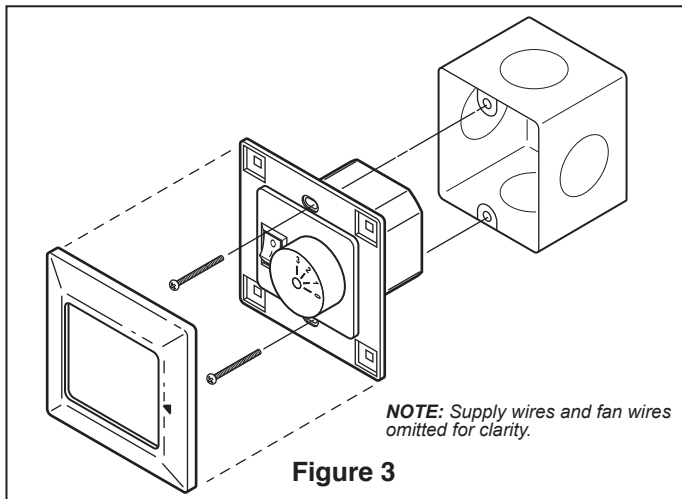

Figure 3
1. Securely attach the hanger bracket to the outlet box using the outlet box screws and washers supplied with the outlet box (Figure 3).
- ### 2. Attach wall control unit to outlet box using the two 6-32 screws provided. (Figure 3)